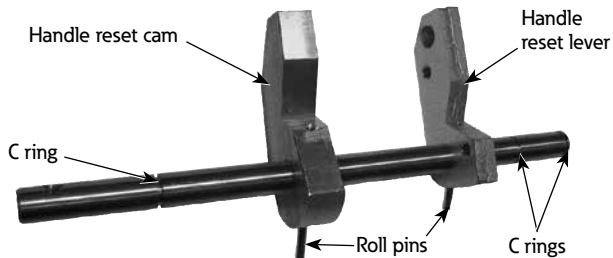

Figure 9. Handle shaft assembly.
4. Drive roll pins from handle reset cam and handle reset lever attached to handle shaft and discard (Figure 9).
Carefully remove roll pins, cam, and lever from new shaft (Figure 9).